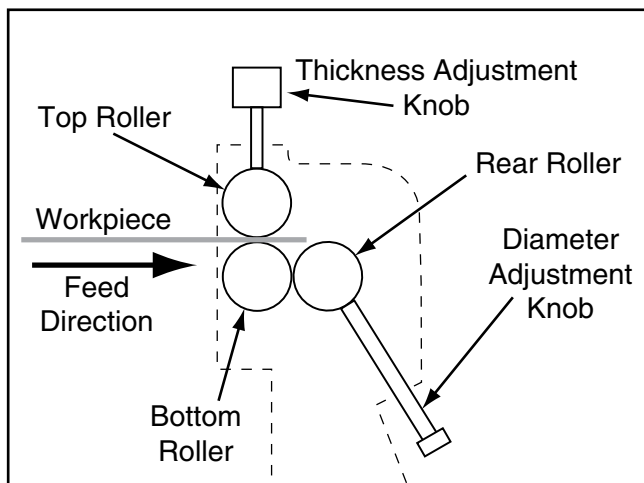

Figure 15. Rear roller lowered so it is even with bottom roller.
1. Use diameter adjustment knobs to lower rear roller until it is even with bottom roller (see **Figure 15**). Rotate thickness adjustment knobs counterclockwise until top roller can be lifted enough to insert workpiece.